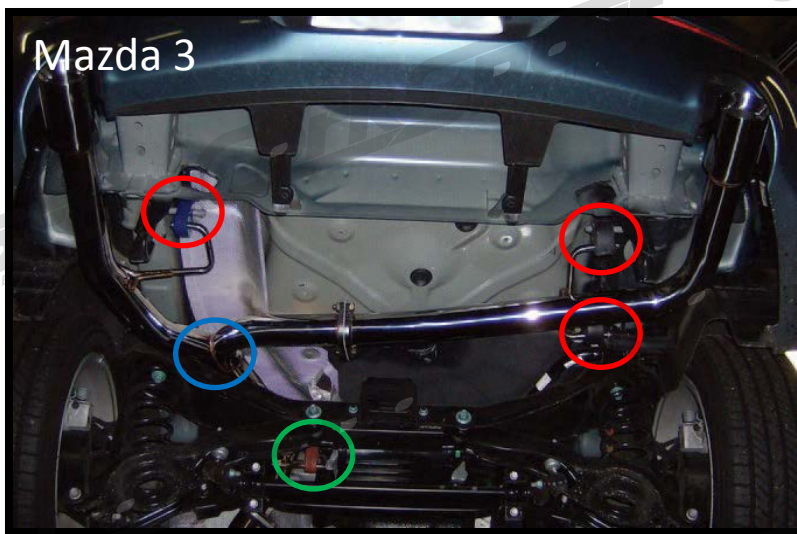
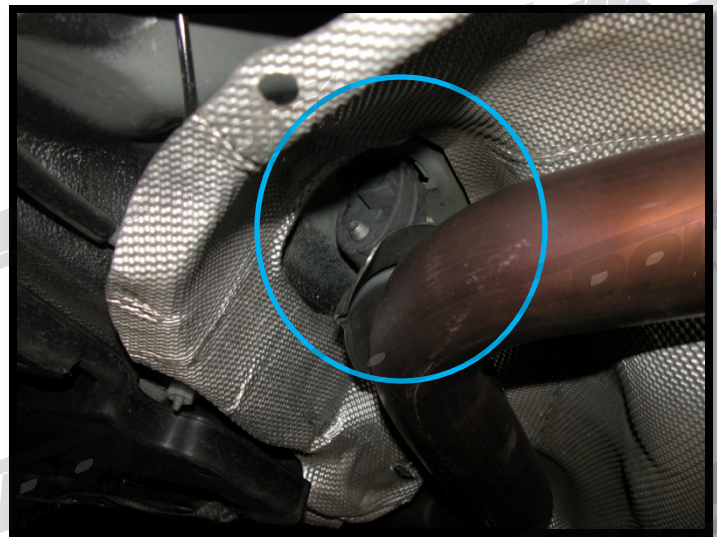

Figure 2A
Figure 2C
A) The location of each of the hangers are shown in Figure 2a and 2B. The **red circles** in **Figure 2A** indicate locations for the single exit exhaust and the **three green circles** in Figures 2A and 2B indicate the additional locations for the dual exit. The **blue circle** indicates the location for the twist-in style hanger shown in **Figure 2C** that will be used in both the single and dual exit exhaust installation
The **red circles** in **Figure 2A** are 12mm and the **green circles** are 10mm